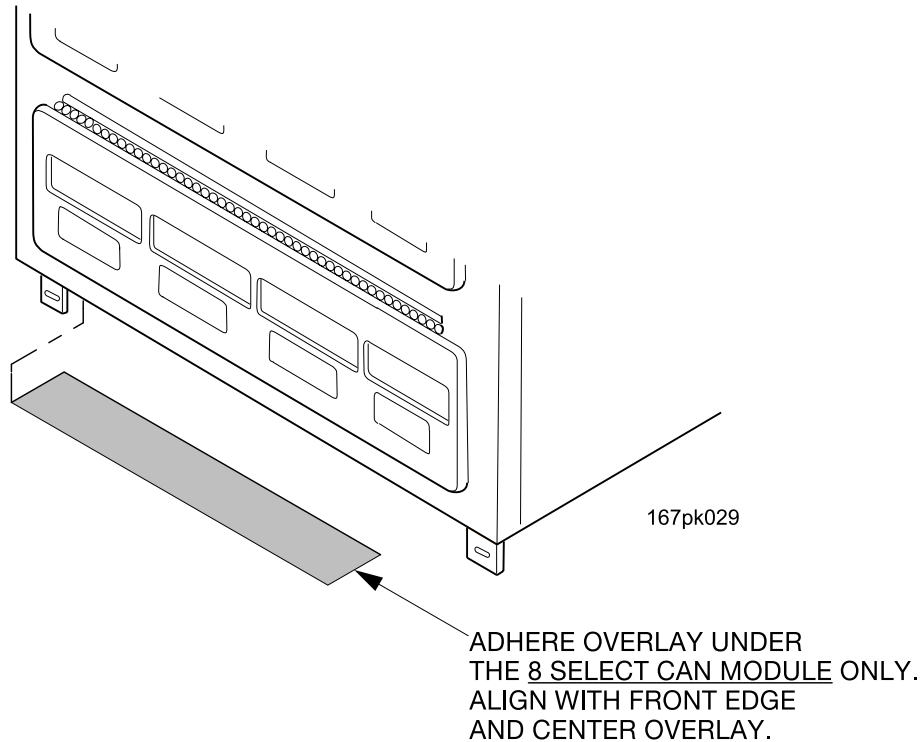

Figure 3
4. Apply the remaining overlay (without clear lines) to the underside of the 8-can select module only. Position the overlay even with the front edge, and centered side to side as shown in Figure 3 below.